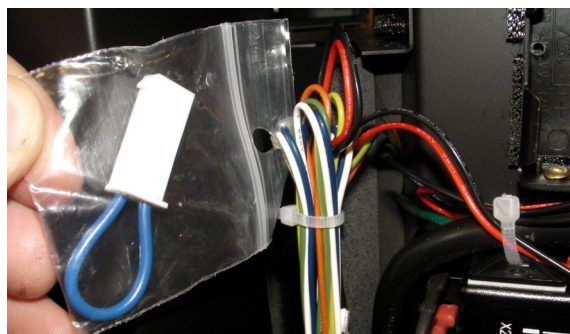

Figure 20.
- 2). Remove the bag containing the Jumper Cable from the wire harness connected to the controller as shown in Figure 20.